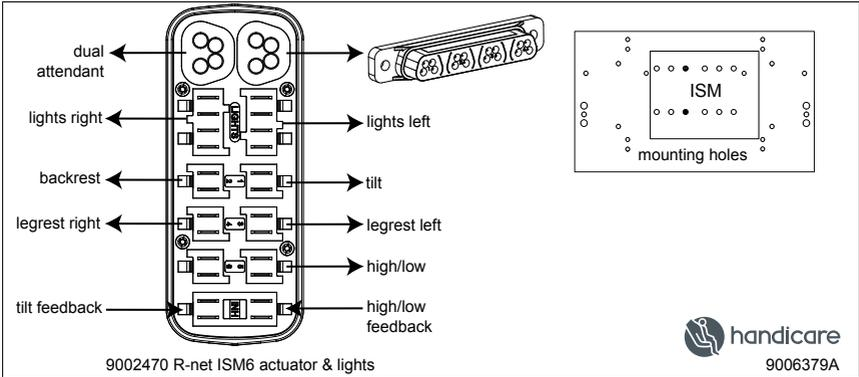

Figure 6
To lock the controller with the special key (H1 in figure 6):
- Insert and remove the special key into the Charger Socket on the Controller (G in figure 6). The controller is now locked and the following screen will be displayed.
- Insert and remove the special key into the Charger Socket on the Controller (G in figure 6). The controller is now unlocked.